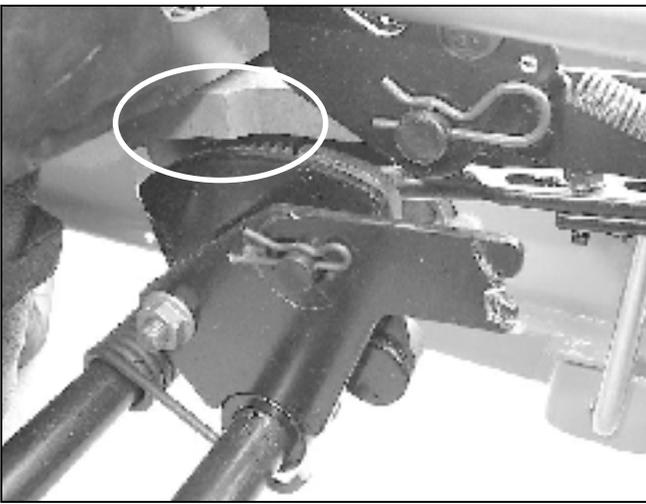

Figure 3
- Inspect the cruise latch and the cruise plate for any damage to the engagement teeth. If any damage is evident, replace damaged parts as needed. See figure 3 on next page.